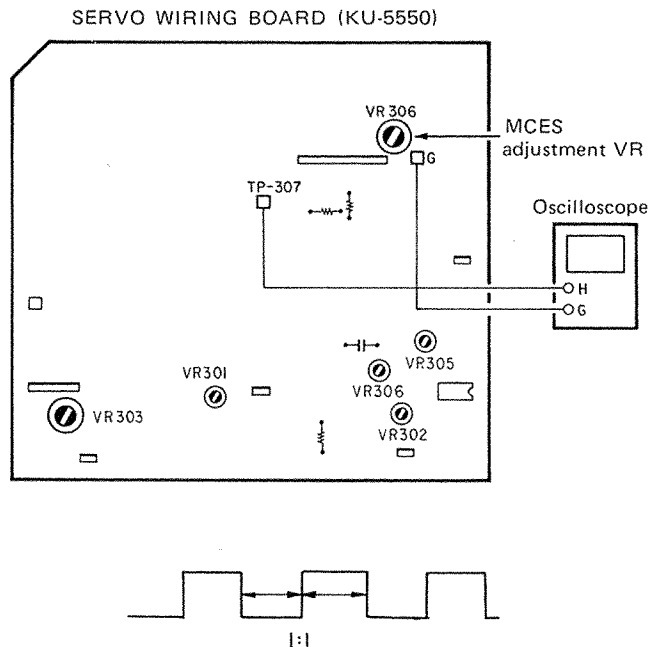

Fig. 32
11. Adjustment of MCES. (Fig. 32)
1. Adjustment of VCO oscillating frequency. (Fig. 32, 33)